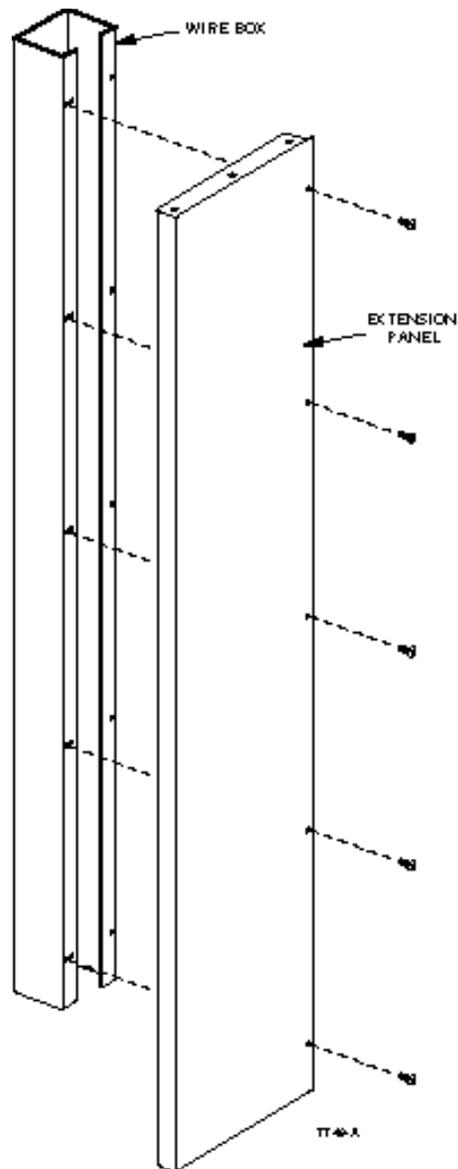
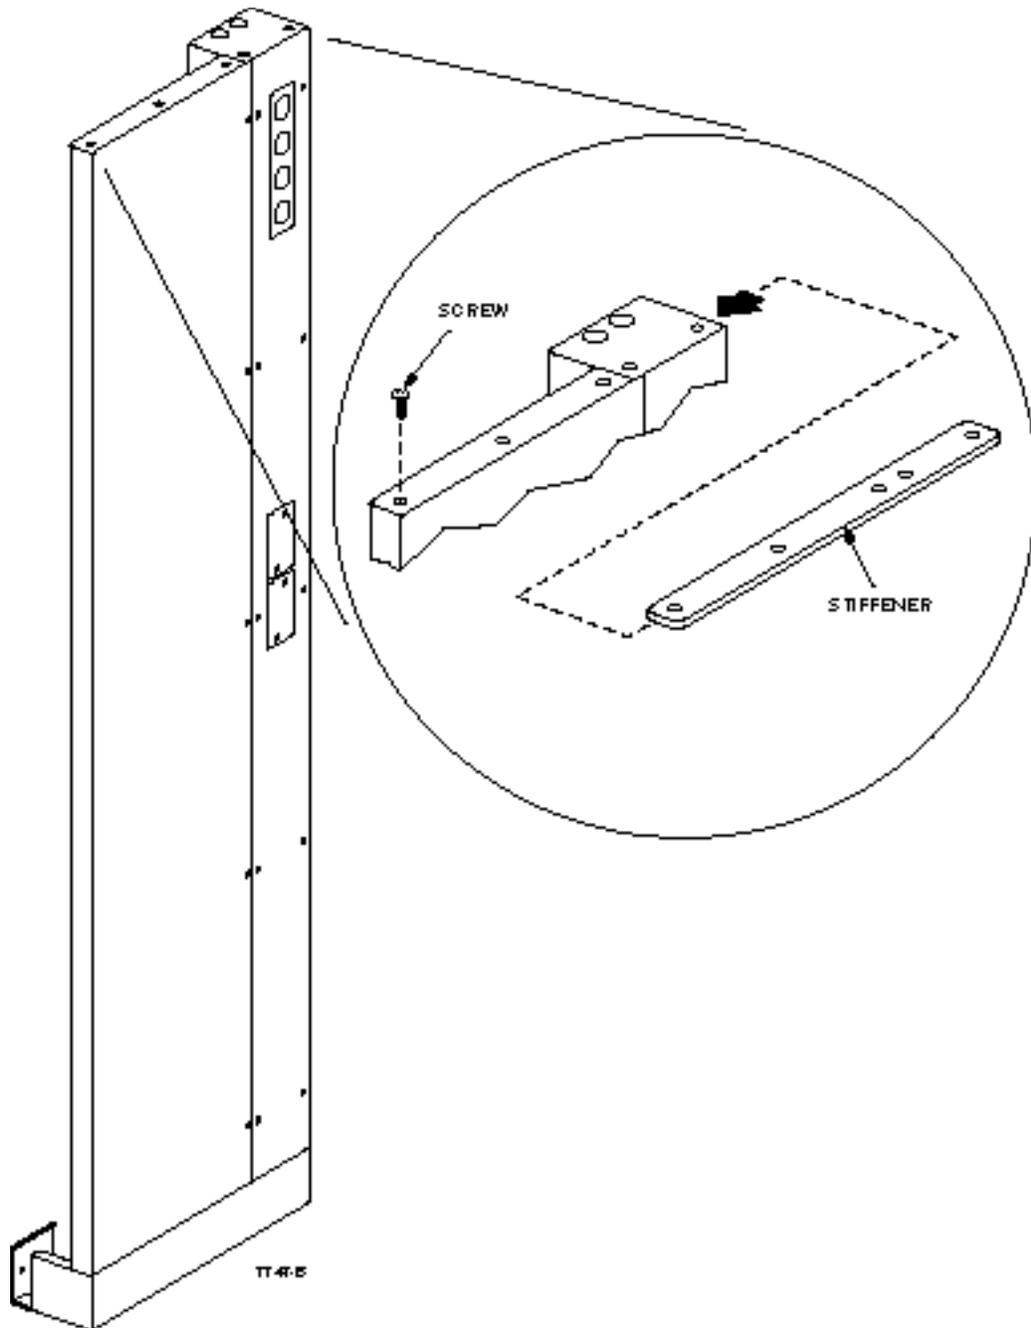

Figure 6. Attaching the Extension Panel to the Wire Box
Figure 7. Assembled (Right) End Guard
► **Note:** Figure 6 and Figure 7 show a Right End Guard (for mounting on the *right* side of a frame section as viewed from the front). To assemble a Left End Guard, mount the Wire Box on the rear portion of the Base Box installed at the *left* end of the lineup. All the parts are symmetrical.
4. Mount the Extension Panel on the Wire Box (see Figure 6) with five #12-24 screws through the slots in the Extension Panel into the threaded holes down the side of the Wire Box. (Leave the screws loose for now.)
6. Slide the End Panel Stiffener inside the top of the Wire Box and the Extension Panel as shown in Figure 7, then secure it with a total of five #12-24 screws installed from the top.
9. After all wires are routed, mount the Wire Box Cover on the Wire Box with ten #12-24 screws (supplied). (If used, mount the Light Panel Cover and AC Covers on the outside of the Wire Box Cover with #10-32 screws as shown in Figure 7.)